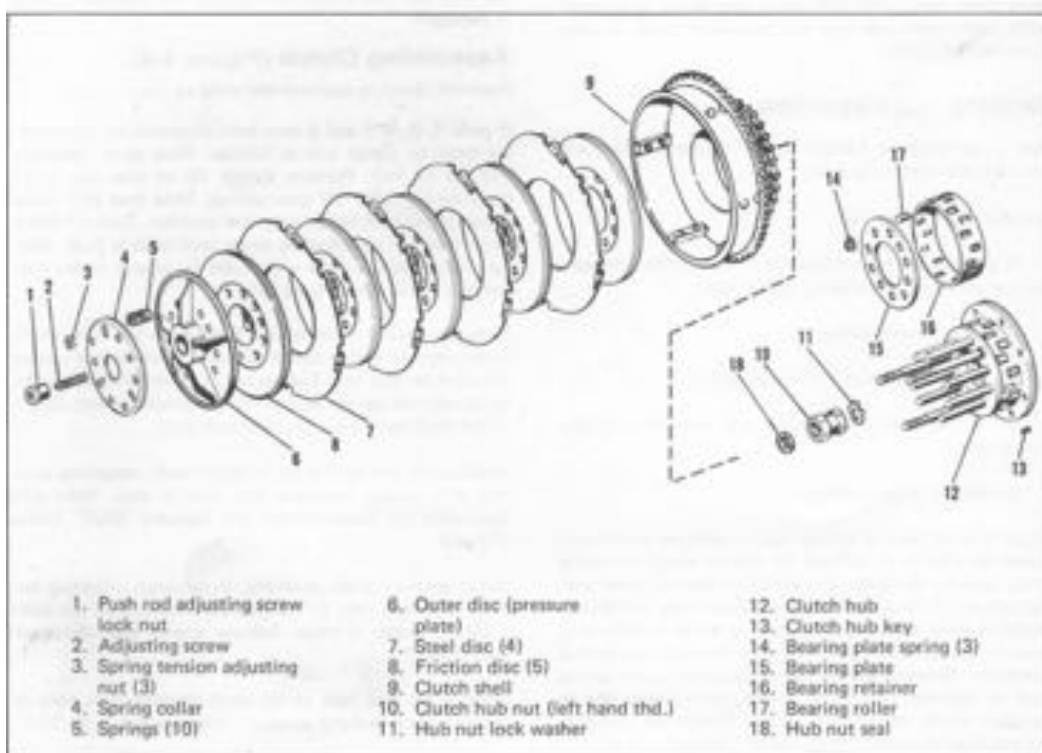

Figure 4-4. Clutch Assembly – Exploded View
## DISASSEMBLING CLUTCH (Figure 4-4)
## Assembling Clutch (Figure 4-4)
Place oil drain pan under transmission. Remove starter cover nuts (1) and plain washers (2). Loosen clutch adjusting screw (2, Figure 4-4). If transmission is in chassis, remove clutch lever rod from left end of clutch release lever. Remove exhaust pipe and other components mounted on transmission cover studs. Cover assembly with clutch release lever assembly is then free to be pulled off mounting studs. With starter cover removed, push rod assembly (3) is free to be pulled out of mainshaft.